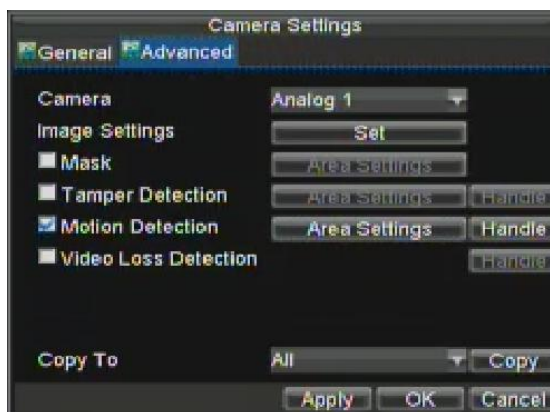

Figure 1. Advanced Camera Settings
- 2. Select the **Advanced** tab to open up the Advanced Camera Settings menu, shown in Figure 1.**